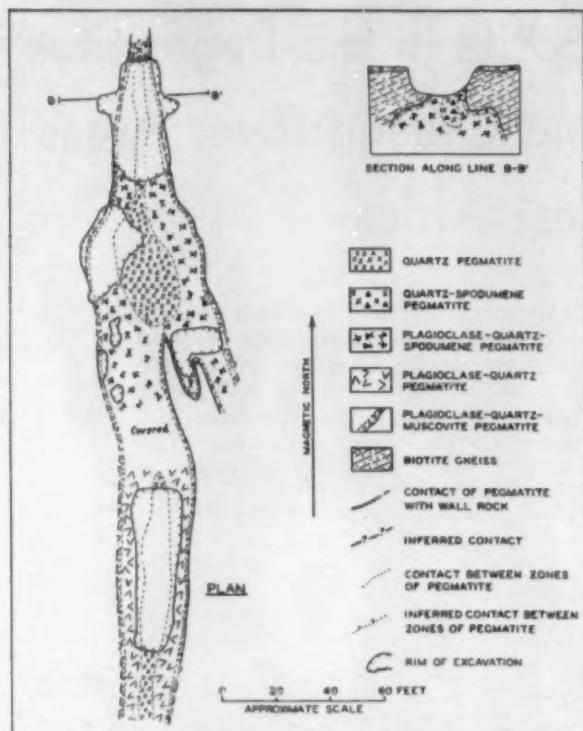

Fig. 2—A pace-compass map of pegmatite on Farm Donkerhoek.
**Pegmatite on Farm Donkerhoek:** A pace-compass plan of a tantalite-bearing pegmatite on Farm Donkerhoek is given in Fig. 2. The pegmatite has a distinct zonal structure. The core consists of two lenses of quartz centrally disposed in the pegmatite body. The keel of the northern lens is exposed in a small open cut, and along the under side of the keel an inner intermediate zone of quartz with scattered spodumene crystals is developed. Outside this is a plagioclase-quartz outer intermediate zone that contains scattered spodumene crystals. The counterpart of this zone in the southern part of the pegmatite appears to contain no spodumene and is therefore shown by a separate symbol on the map. The wall zone is 1 to 2 ft thick and is composed of plagioclase and quartz with large books of muscovite. Tantalite in this pegmatite is apparently concentrated in the inner part of the outer intermediate zone. The writer could find nothing to indicate that either tantalite or spodumene developed by replacement of pre-existing pegmatite. The two minerals appear to have formed contemporaneously with other constituents of the zones.